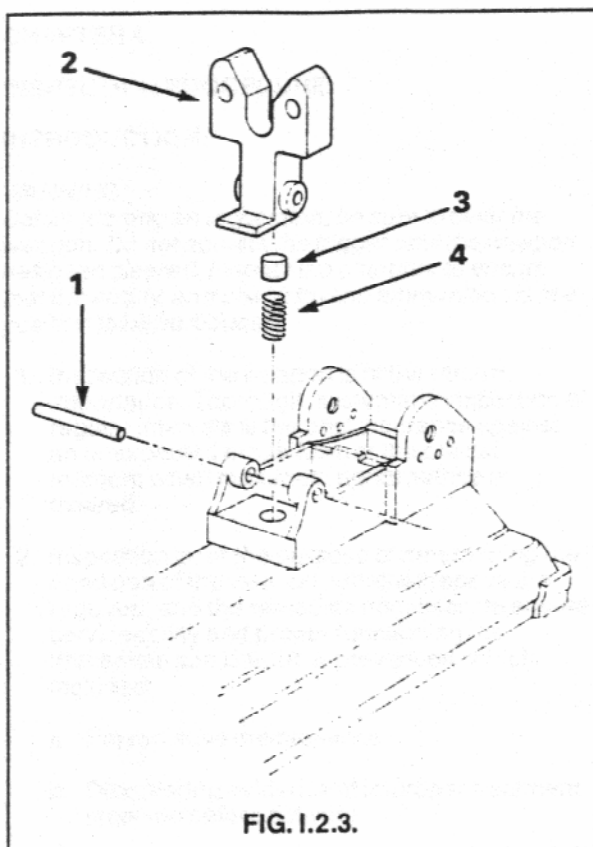

FIG. I.2.3.
3. Using a suitable punch and a hammer, drive out spring pin retaining night sight. Push right down and lift it out, taking care that spring does not eject plunger. Remove spring and plunger. See Fig. I.2.3.